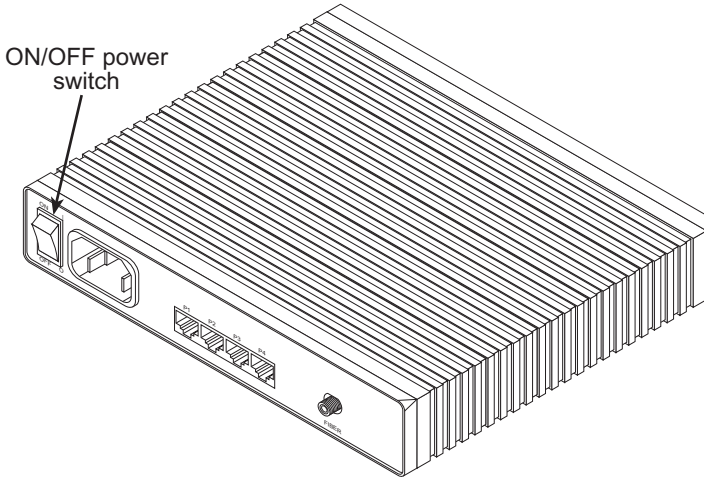

Figure 8. Power switch location
3. Set the ON/OFF power switch (see Figure 8) to ON.
3. Set the ON/OFF power switch (see Figure 8 on page 16) to ON.